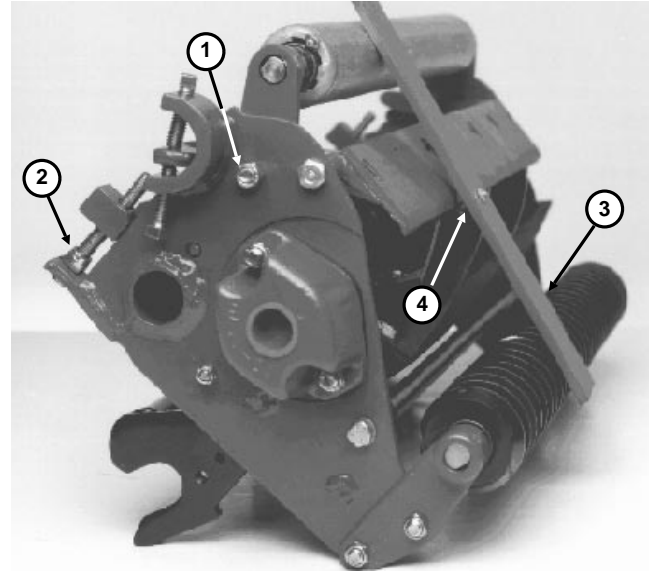

Figure 11
2. To adjust height of cut, cutting unit should be turned over (Fig. 11).